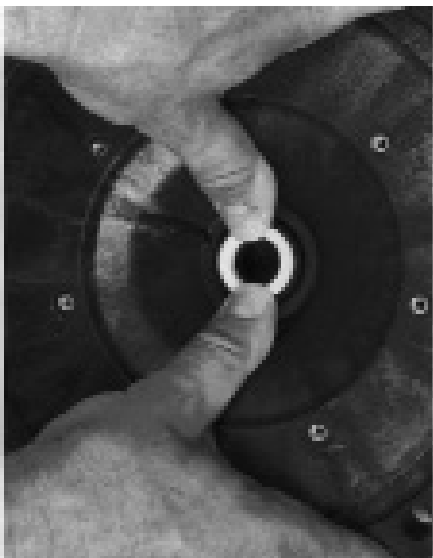

Figure 6
1. Ceramic seal must be clean and free of dirt, grease, dust, etc. Wet outer edge with small amount of liquid detergent; press ceramic seal into seal plate cavity firmly and squarely with finger pressure (Fig. 6).